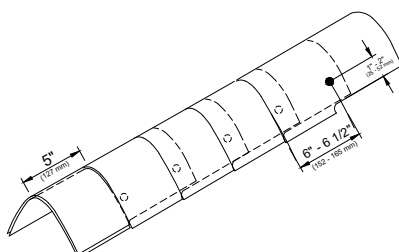

Figure 2
- For Seal-A-Ridge® ArmorShield Ridge Cap Shingles 6" – 6 1/2" (152 - 165 mm) back from the exposed end and 1"-2" (25 - 51 mm) up from the edge (see Figure 2).